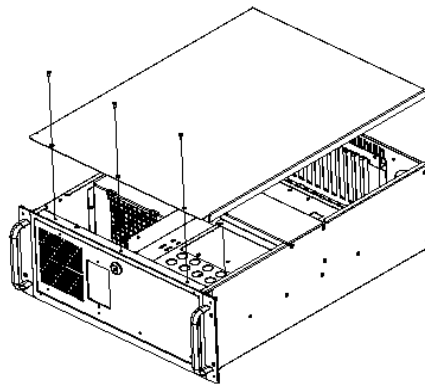

Figure 2-12. Removing the Top Cover
2. Open the 1600 unit by removing the three screws from the top cover (see Figure 2-12).